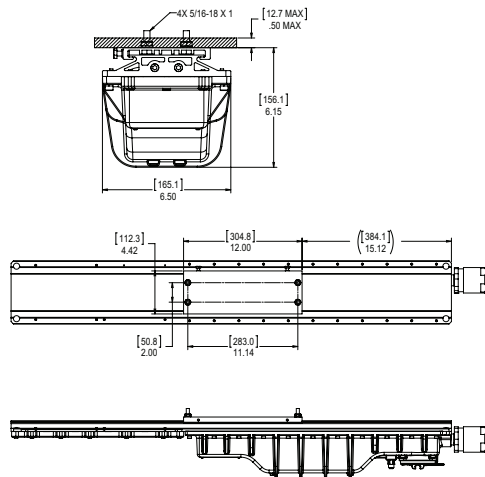

Figure 2. ZP1057MTK Back Mount Installation
3. For back mount, use the bracket as a template, mark and drill holes into the mounting surface and use supplied 5/16" bolts (see Figure 2).
5. It is strongly suggested to use two (2) qualified tradespeople to proceed with the final mounting of the fixture. This is recommended to avoid any personal injury or damage to the fixture.
6. Place the four (4) 5/16" bolts through the mounting plate and tighten evenly to the support structure. Minimum torque 138 in.-lbs. (15.6 N-m).
7. Slide the fixture into the mount bracket, engaging the flange on the top of the fixture and position it near the center. For final positioning, adjust approximately as shown in Figure 2.
8. Tighten the four (4) 1/4" set screws on the slide bracket until they bottom. Torque to 78 in.-lbs. (8.8 N-m).